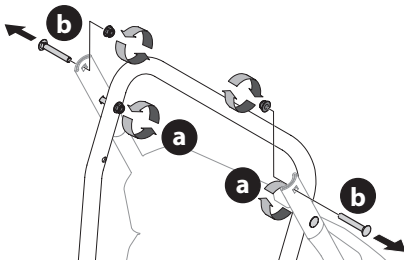

Figure 1
2. Loosen the top two nuts (a) securing the upper and lower handle and remove the two carriage bolts (b) from the upper handle and set aside as shown in Figure 1.